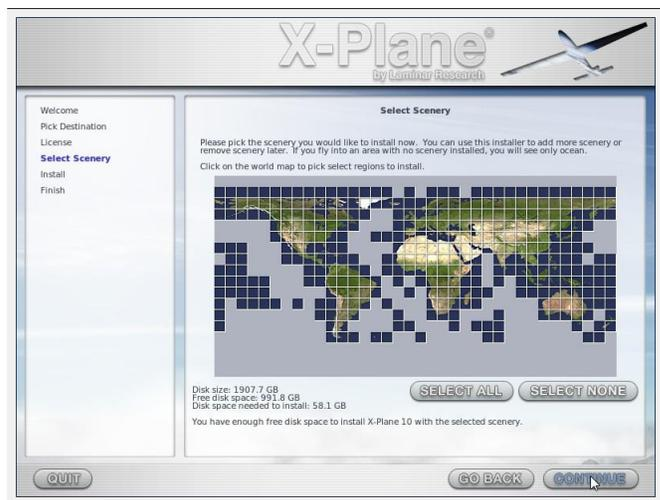

Figure 2.1: All scenery selected for installation after clicking “Select All” [Full size →]
6. Select the scenery you would like to install. Depending on the installer on your disc, either all of the world or none of it will be selected by default. An unselected tile will appear bleached in color, while a selected tile will have its full color (as all tiles do in Figure 2.1).